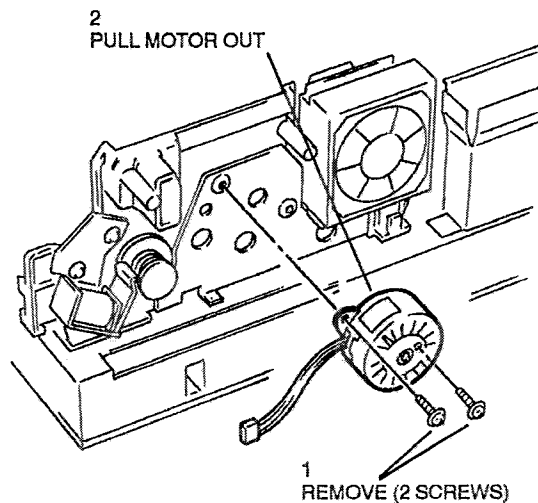

Figure 1. Drive motor removal
2. (Figure 1) Remove the drive motor.